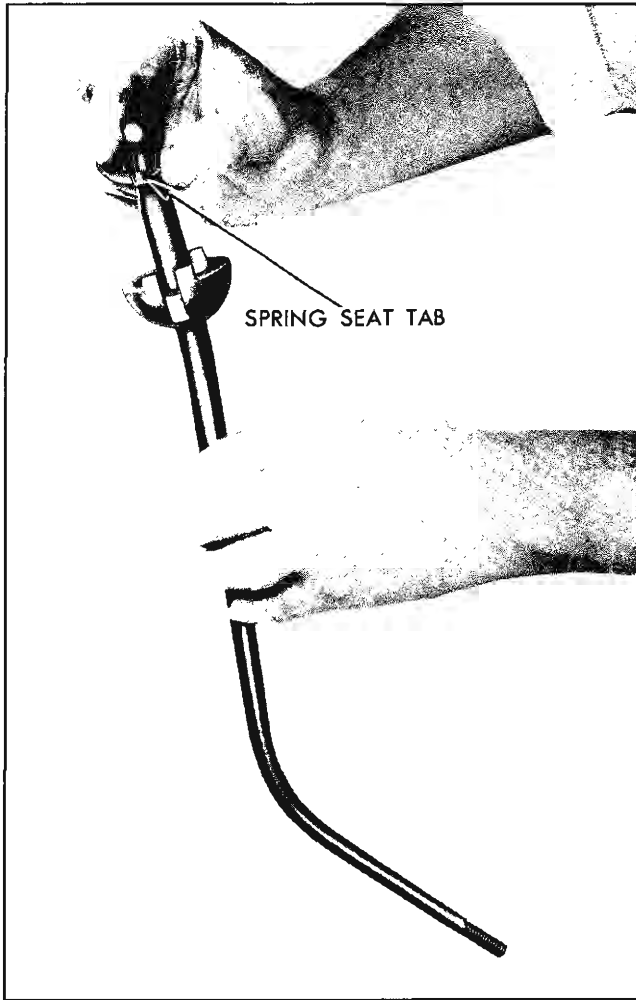

Fig. 7-11 Installing Spring Seat
3. Install control lever spring seat in control lever as shown in Fig. 7-11.